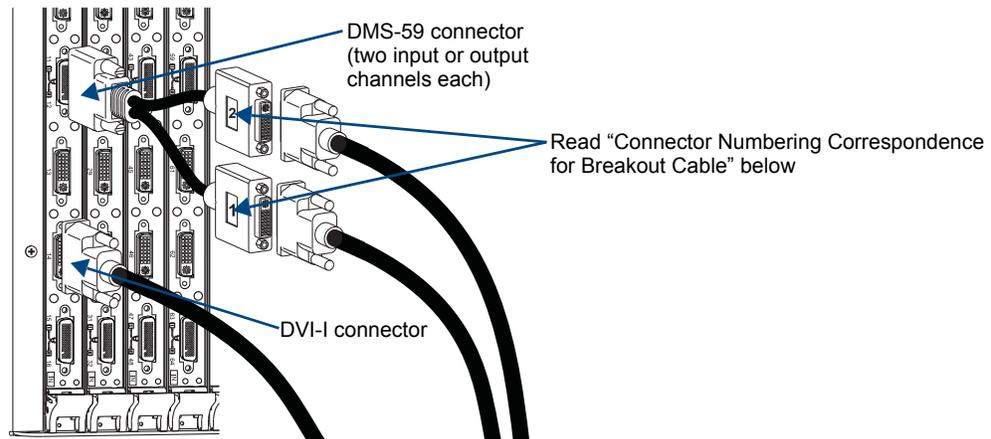

FIG. 32 Fasten cables onto input and output connectors
1. Fasten the breakout cables onto the DMS-59 input or output connectors on the board (FIG. 32).
The two DVI connectors on the DMS-59 breakout cable are labeled 1 (bottom connector) and 2 (top connector). They route signals according to the numbering to the left of the DMS-59* receptacle: 1 corresponds to the receptacle number with the lower numerical value and 2 corresponds to the number with the higher numerical value. For example, on the DMS-59 breakout cable for Inputs 11 and 12 (FIG. 32), the DVI connector labeled 1 routes the signal for Input 11 and the DVI connector labeled 2 routes the signal for Input 12.